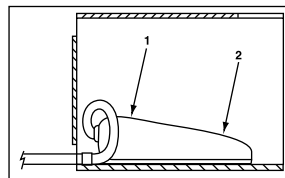

Figure 9
5.4 Valves with foot switch (see Fig. 9)